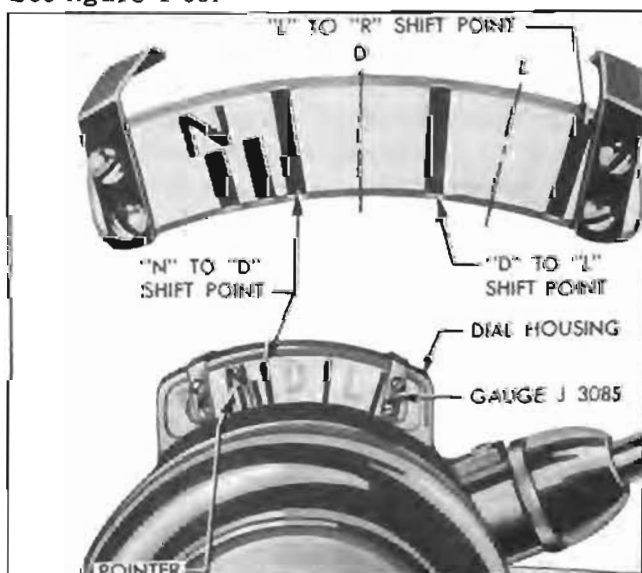

Figure 4-69—Linkage Adjustment Gauge J 3085 Set for Checking Shift Point
8. When spring travel is correct pull shift rod forward until stop is felt then adjust shift rod clevis until clevis pin will just enter hole in shift idler lever, *with control detent firmly engaged in Parking (P) position*. Lengthen shift rod by unscrewing clevis 3 complete turns, then temporarily connect rod to idler lever with clevis pin.
9. Place shift control lever in Neutral (N) position making sure that detent is firmly engaged, then install Shift Control Linkage Adjustment Gauge J 3085 on dial housing with the line under "N" centered on the dial pointer. See figure 4-69.
10. *With transmission warmed up* and engine idling at approximately 600 RPM, slowly move control lever from Neutral (N) to Drive (D) position. The clutch should engage, as indicated by an immediate decrease in engine speed when the tip of dial pointer is behind the long gauge mark located midway between "N" and "D" on speed ratio dial. See figure 4-69. The width of this mark provides for the allowable variations in shift point.
11. Slowly move control lever from Drive (D) position to Neutral (N) position. Clutch should disengage, as indicated by an immediate increase in engine speed, when tip of speed ratio pointer is behind the midway mark on gauge, as in Step 10.
13. Check operation in Low (L) and Reverse (R). Low and Reverse should be obtained when detents are engaged and the shift points should occur when tip of dial pointer is behind the corresponding shift point marks on Gauge J 3085 shown in figure 4-69. If these conditions are not correct, the transmission shift lever may be bent.